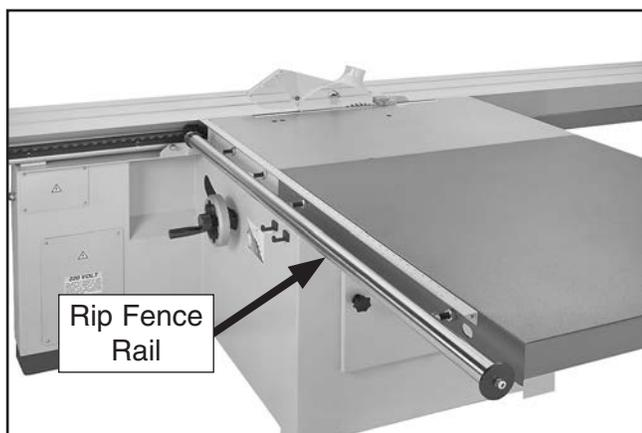

Figure 31. Rip fence rail installed.
33. Install the rip fence rail by inserting the studs into the provided holes in the cast iron table and rear extension wing, as shown in **Figure 31**, then secure them with the hex nuts, lock washers, and flat washers removed in **Step 32**.